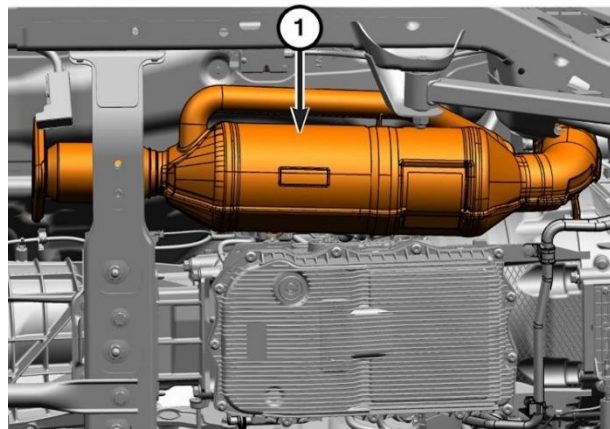

Figure 33 – DPF
41. Carefully remove the DPF (1) from the vehicle (Figure 33).